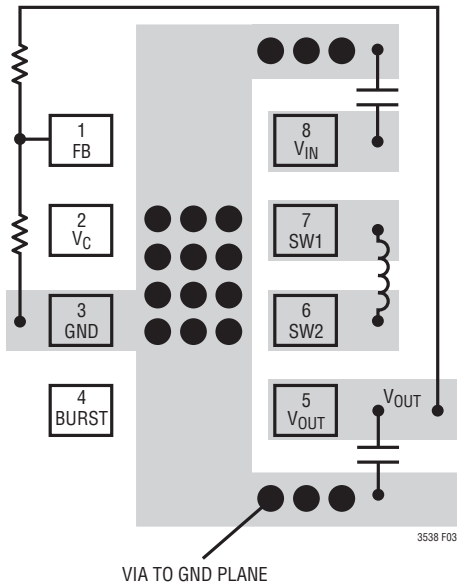

Figure 3. LTC3538 Recommended PCB Layout
The LTC3538 switches large currents at high frequencies. Special care should be given to the PCB layout to ensure stable, noise-free operation. Figure 3 depicts the recommended PCB layout to be utilized for the LTC3538. A few key guidelines follow:
1. All circulating current paths should be kept as short as possible. This can be accomplished by keeping the routes to all components (except the FB divider network) in Figure 3 as short and as wide as possible. Capacitor ground connections should via down to the ground plane in the shortest route possible. The bypass capacitor on V_{IN} should be placed as close to the IC as possible and should have the shortest possible paths to ground.
2. The small signal ground pad (GND) should have a single point connection to the power ground. A convenient way to achieve this is to short this pin directly to the Exposed Pad as shown in Figure 3.